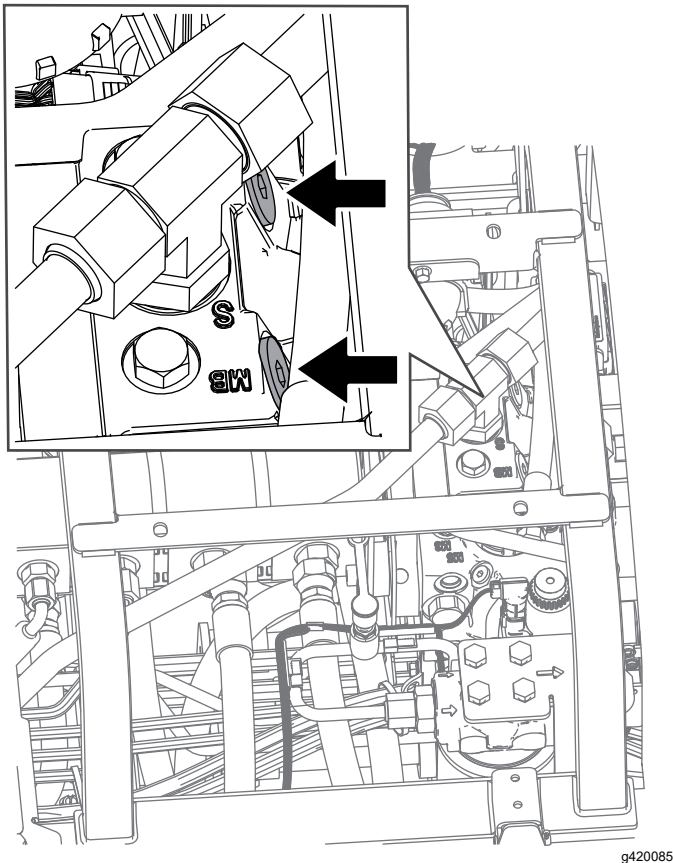

Figure 35
2. Locate the bypass valve under the seat and on the top of the hydrostat (Figure 35).